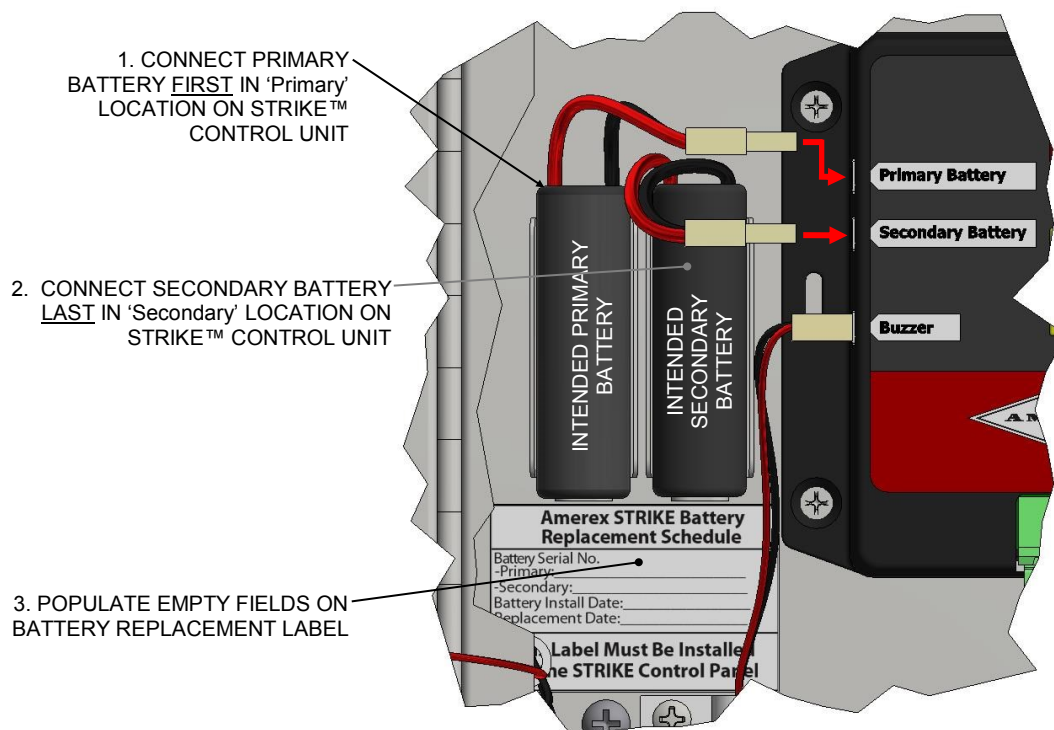

Figure 4.12.5
4. Locate the two batteries, intended for use with the STRIKE™ Control Unit. Verify each is installed in the provided battery brackets in the STRIKE™ Control Unit enclosure. **First, connect the left battery to the 'Primary' battery connection port and then the right battery to the 'Secondary' battery connection port (See Figure 4.12.5).** Verify the STRIKE™ Control Unit returns to normal condition with green 'System Normal' LED is flashing once every 4 seconds.